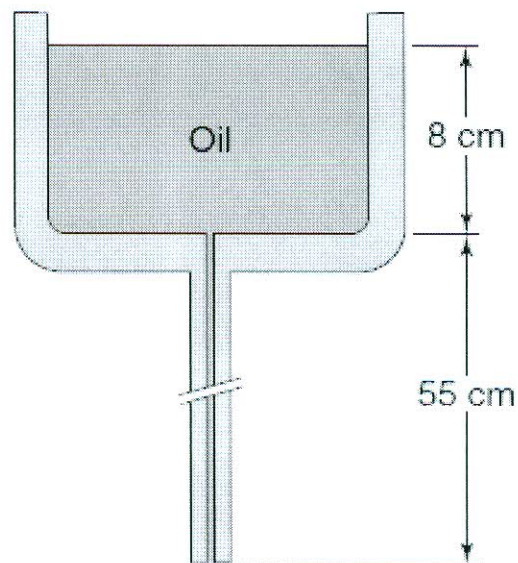

Figure 4 - A viscometer
- [b] A common type of viscometer for liquids consists of a relatively large reservoir with a very slender outlet tube (Figure 4), the rate of outflow being determined by timing the fall in the surface level. If oil constant density flows out of the viscometer shown at the rate of $0.273 \text{ cm}^3/\text{s}$, what is the kinematic viscosity of the fluid? The tube diameter is 0.18 cm.